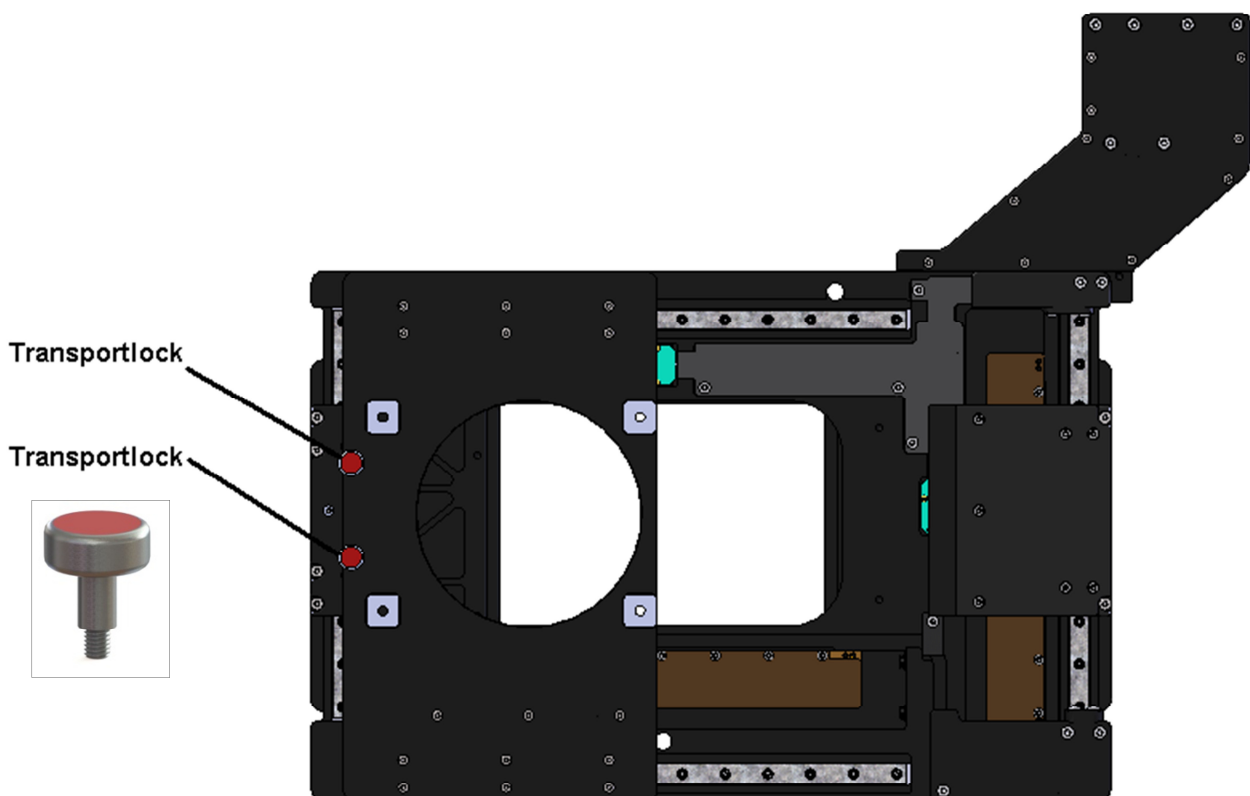

Fig. 6.3.1 Position of the transport lock screws (ITK code: 401-0033-005)
- Remove the two transport lock screws that are shown in Fig. 6.3.1